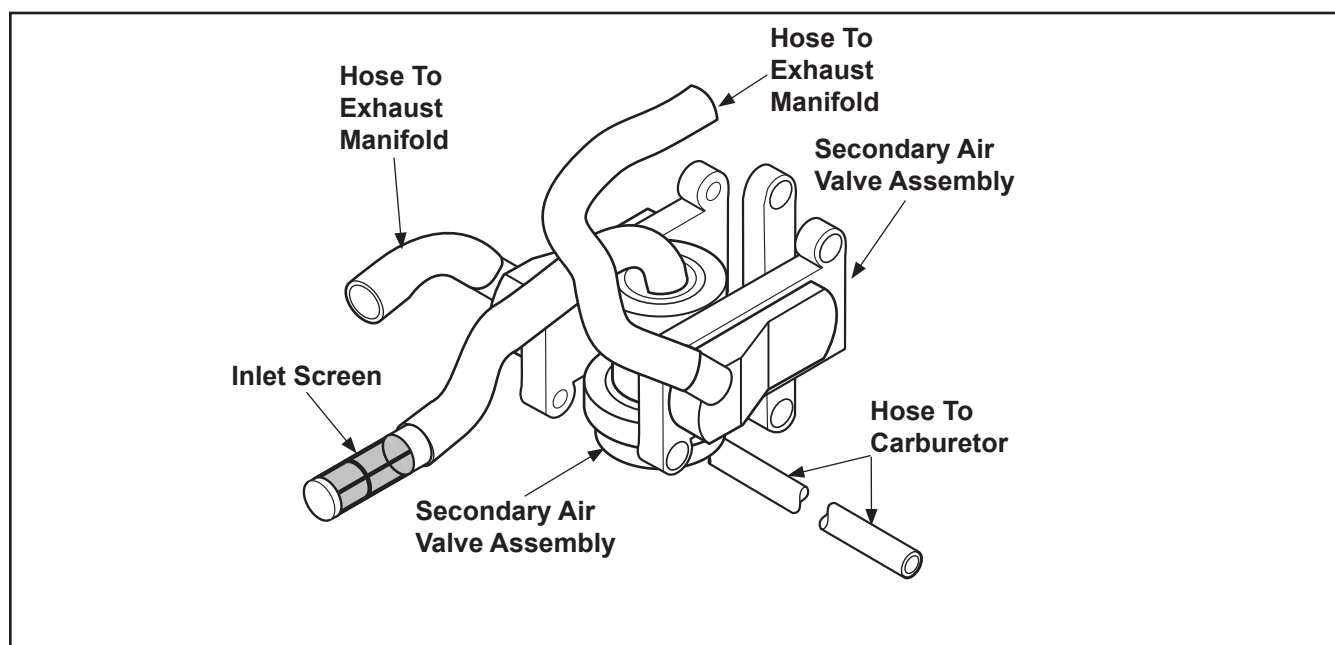

Figure 11-2. Secondary Air Induction System Diagram.
**Operation:** The intake pulse of the engine activates the secondary air valve. Air is drawn through an inlet screen of the secondary air valve. The air is then drawn into the exhaust manifold and muffler where it mixes with any unburned hydrocarbons, which then burn in the heat of the muffler. A hose is connected between a carburetor port and a diaphragm chamber in the secondary air valve. The carburetor vacuum moves the diaphragm to close the valve when air induction is not required, primary idle. See Figure 11-2.